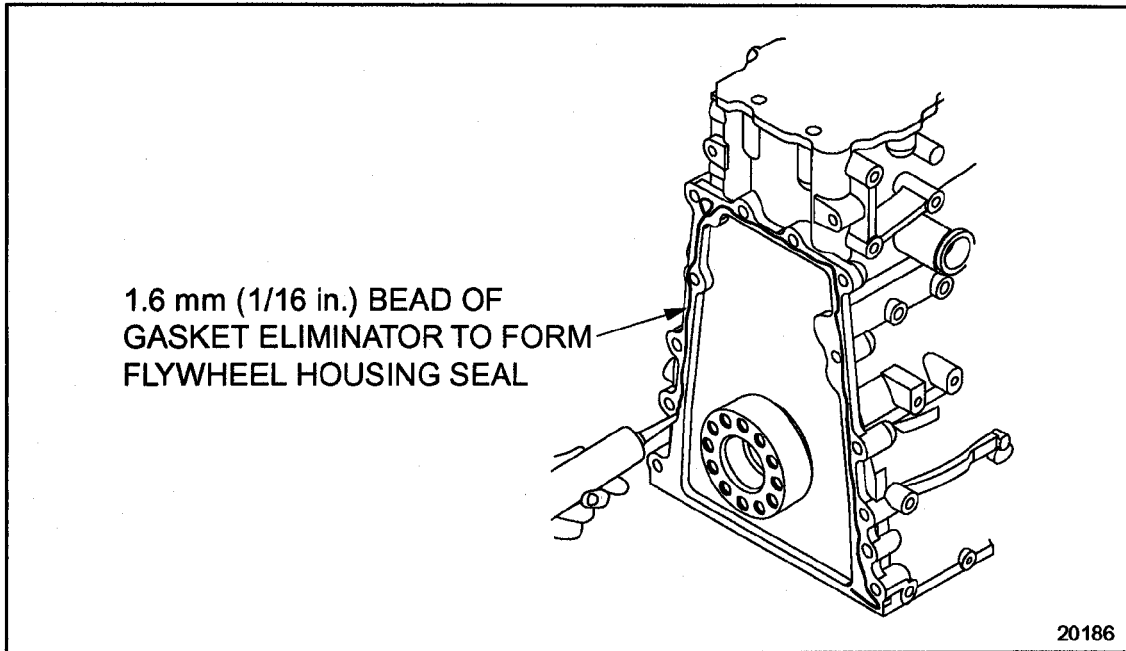

Figure 1-233 Gasket Eliminator Installation
1. Apply a continuous 1.6 mm (1/16 in.) bead of Loctite® 518 gasket eliminator, or equivalent, to the cylinder block where it mates with the flywheel housing. See Figure 1-233.